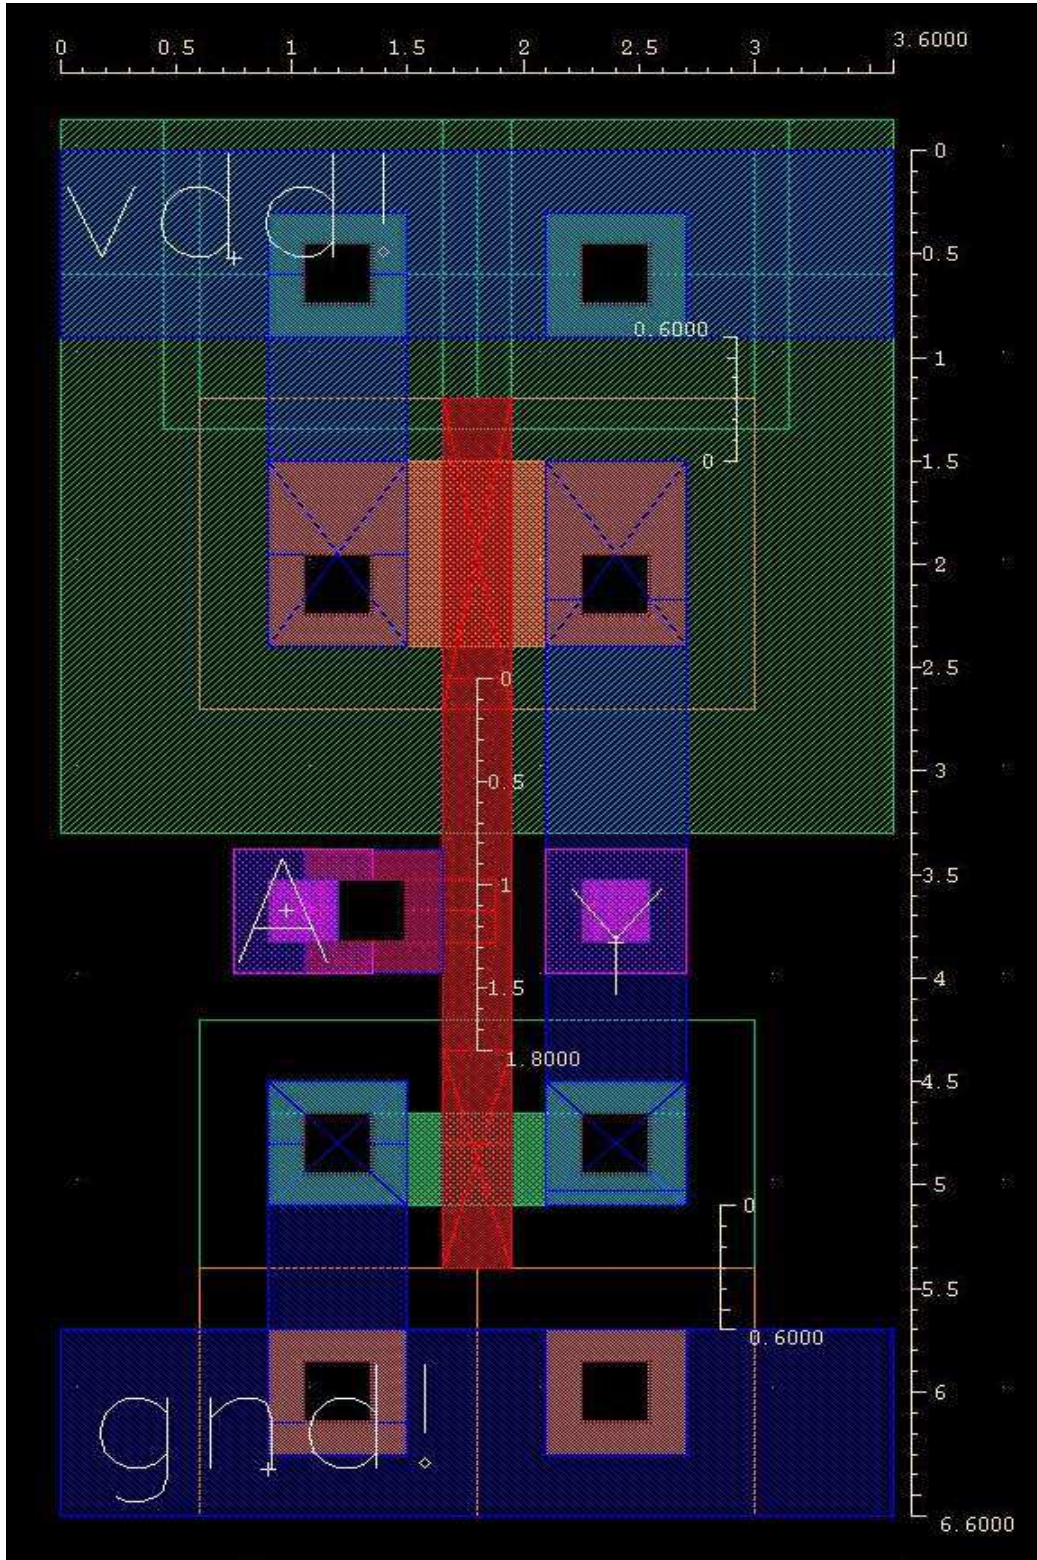

Figure 1: Finished layout of a minimum-sized inverter.
7. Let's now proceed with the actual layout of the inverter. The final result should look similar to that of Figure 1. Drawing all the shapes on all the proper layers to define a single MOSFET is pretty involved and will require a more detailed explanation than what we can give here. Fortunately, we can simply instantiate parameterized layouts of the MOSFETs we are going to use. Go to Create->Instance (shortcut: 'i'). The Create Instance window should pop up. Click on the Browse button, then locate the layout cellview of the Cell 'nmos' in the NCSU\_Techlib\_tsmc03 library. The Create Instance window should now show you different parameters you can vary for this nmos. Like in the schematic, we will be mostly interested in the width of the transistor (leaving the length to be the minimum allowable). In this case, we want to create a minimum-sized NMOSFET so the default of
11. Now, the next step is to create the power and ground rails to which we will connect our transistors. Using the Create rectangle tool, draw a 0.9um x 3.6um metal1 rectangle that is 0.6um away from the metal1 shapes of the corresponding NMOS or PMOS transistor. Refer to the Figure 1 to see how the two supply rails should be placed.
13. Now, it should be emphasized that MOSFETs are actually four-terminal devices. In addition to the gate, source and drain terminal, we also need to be concerned where the substrate of the transistor is connected. Most often, we want to connect the PMOS substrate (which is n-type) to the highest voltage in the circuit (most often vdd), and the NMOS substrate (which is p-type) to the lowest voltage (most often in CMOS circuits, gnd). To do this, we need to instantiate additional cells to do the connection. Press 'i' to bring up the Create Instance window, then locate the symbolic cellview of the 'NTAP' cell in the NCSU\_Techlib\_tmc03 library. These 'NTAP' cells are used to connect (or "tap") the n-type substrate underneath. Add two of these 'NTAP' cells on top of the PMOS cells the way it is shown on Figure 1. For the NMOS, locate the layout cellview of the 'ptap' cell in the NCSU\_Techlib\_tsmc03 library. These are used to tap the p-type substrate. Instantiate two of these underneath the NMOS as shown in Figure 1. If you have placed everything correctly, the lower edge of the metal connection of the NTAP should coincide with the lower edge of the upper metal1 supply, and the upper edge of the metal connection of the ptap should coincide with the upper edge of the lower metal1 supply. Before proceeding, note that addition of the NTAP causes the nwell-dg layer (the green layer surrounding the PMOS) not to be a rectangle anymore. This is not a problem with this isolated gate, but we will want to place this gate adjacent to other gates eventually, so we want the abutment to be error-free (to be discussed later in the DRC step). Draw an nwell-dg shape to restore the rectangular shape of the n-well (refer to Figure 1).
14. The next step is to provide easy access to the input and output terminals of the inverter. The easiest way to do this is to instantiate vias to the layers we are interested in. In this case, we want to access the polysilicon through a metal2 layer, along with the metal1 output connection of both transistors. First, we need a via that connects the polysilicon to the next higher layer (in this case, metal1). Press 'i' to get the Create Instance window then locate the symbolic cellview of the 'M1\_POLY' cell in the NCSU\_Techlib\_tsmc03 library and add an instance near the polysilicon like the way it's shown in Figure 1 (Note that this via cell is the same cell that is automatically created when doing path stitching between metal1 and polysilicon). We now want to make both the input and output terminals available in metal2. To do this, we need to add vias that go from metal1 to metal2. In the Create Instance window, locate the symbolic cellview of the 'M2\_M1' cell in the NCSU\_Techlib\_tsmc03 library and add two instances of the via as shown in Figure 1.